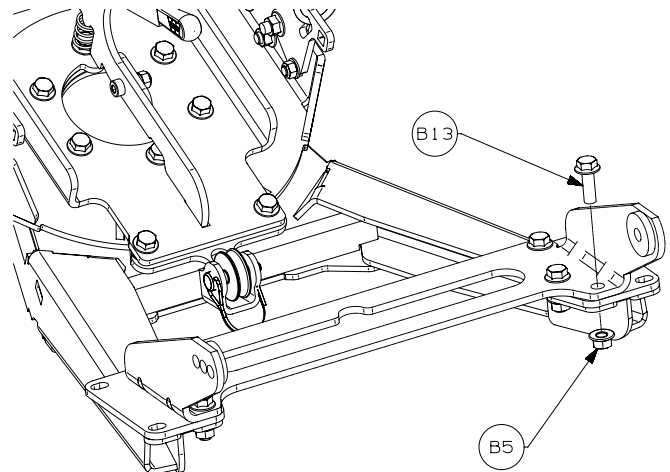

Figure 7
11. The mounting flange is located in the vehicle plow mounting kit. Position the plow mounting flange to the push tube assembly. Secure with fasteners (B5,B13) as shown in figure 7. Tighten fasteners to torque specification listed.
12. Install pulley assembly (A9) using pin supplied with pulley kit. See figure 7.